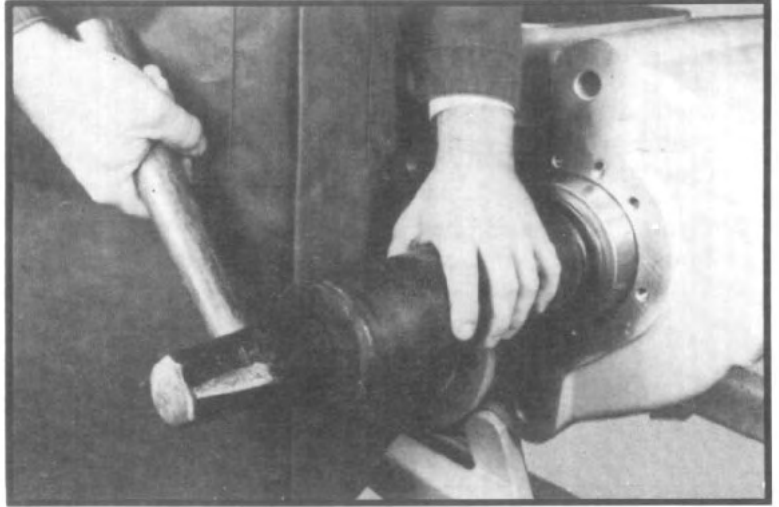

Fig. 93
10. Install the upper shaft rear ball bearing into the housing with a suitable driver. (See fig. 93.)